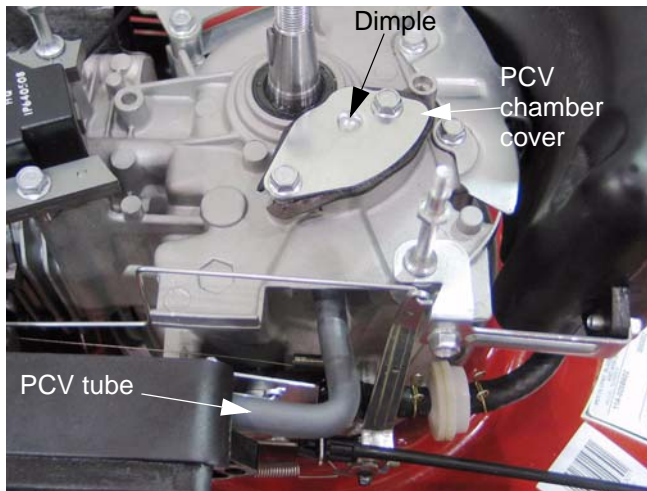

Figure 5.13
9. Inspect the PCV tubing for cracks, brittleness or signs of leaking. Replace the PCV tube if any are found. See Figure 5.13.